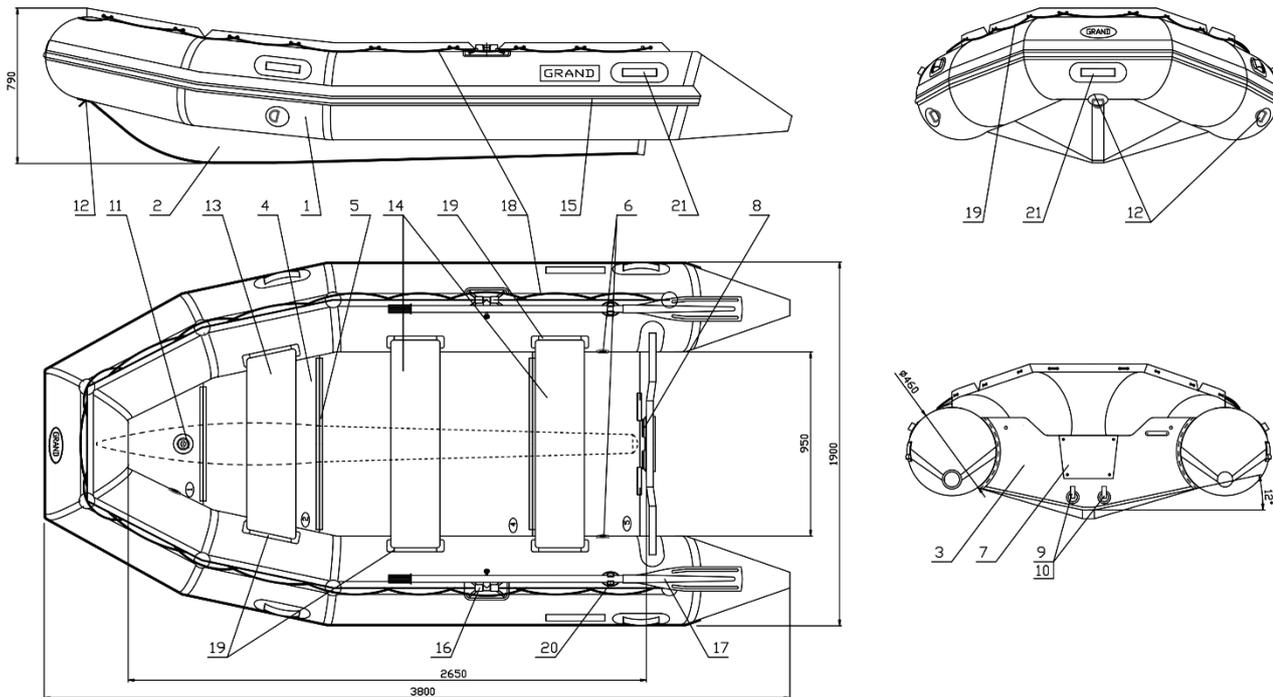

Fig. 26. General arrangement of a boat R380.
**General arrangement of a boat R380 (see fig. 26 on the previous page):**